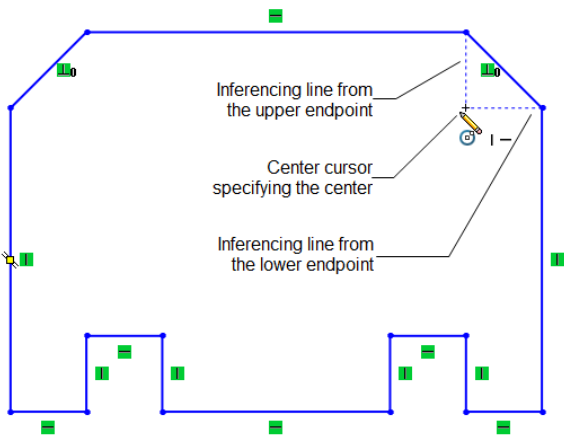

Figure 2-72 Drawing a circle with the help of inferencing lines
- d. Draw circles and sketch of inner cavity, refer to Figures 2-72 through 2-74.
3. Move the circle cursor close to the lower endpoint of the right inclined line and then move it toward the left. Remember that you should not press the left mouse button at this moment. An inferencing line is displayed originating from the lower endpoint of the right inclined line. On moving the cursor toward the left, you will notice that another inferencing line originates at the point where the cursor is vertically in line with the upper endpoint of the right inclined line. This inferencing line will intersect the inferencing line generated from the lower endpoint of the inclined line, refer to Figure 2-72.